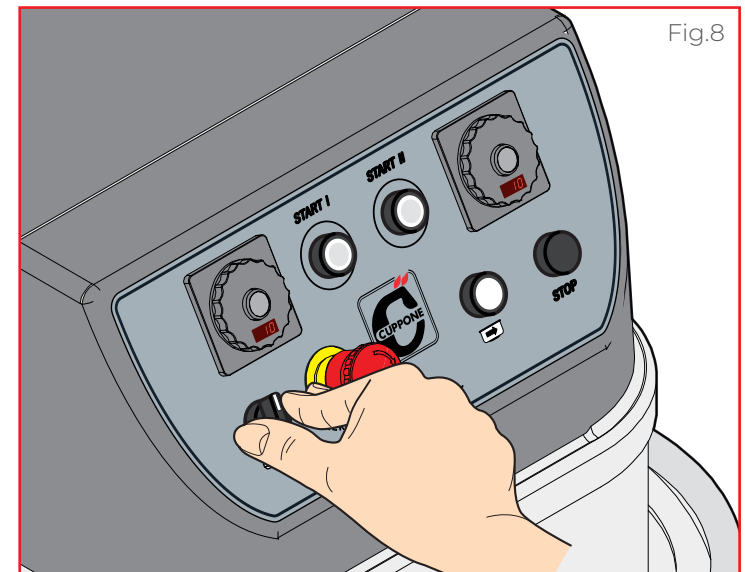

Fig.8
► Fig.8 Rotating the **lever** (7), it is possible to check the bowl rotation: